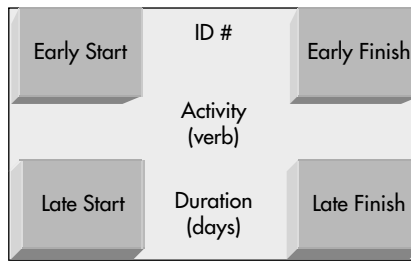

Figure 6-11 Sample sticky note layout
In Chapter 5, we discussed creating the WBS and the use of sticky notes to identify activities. For a recommended layout of CPM activities and how to use a sticky note to assist with the calculation of forward and backward pass and float, see Figure 6-11.
1. Calculating the forward pass will determine the early start (ES) and early finish (EF) days for each activity. The ES and EF numbers go in the upper-left (ES) and upper-right (EF) corners, respectively, of each activity (refer to Figure 6-11).
2. The ES for the first activity (A) is usually zero (place that number in the ES corner of the sticky note).